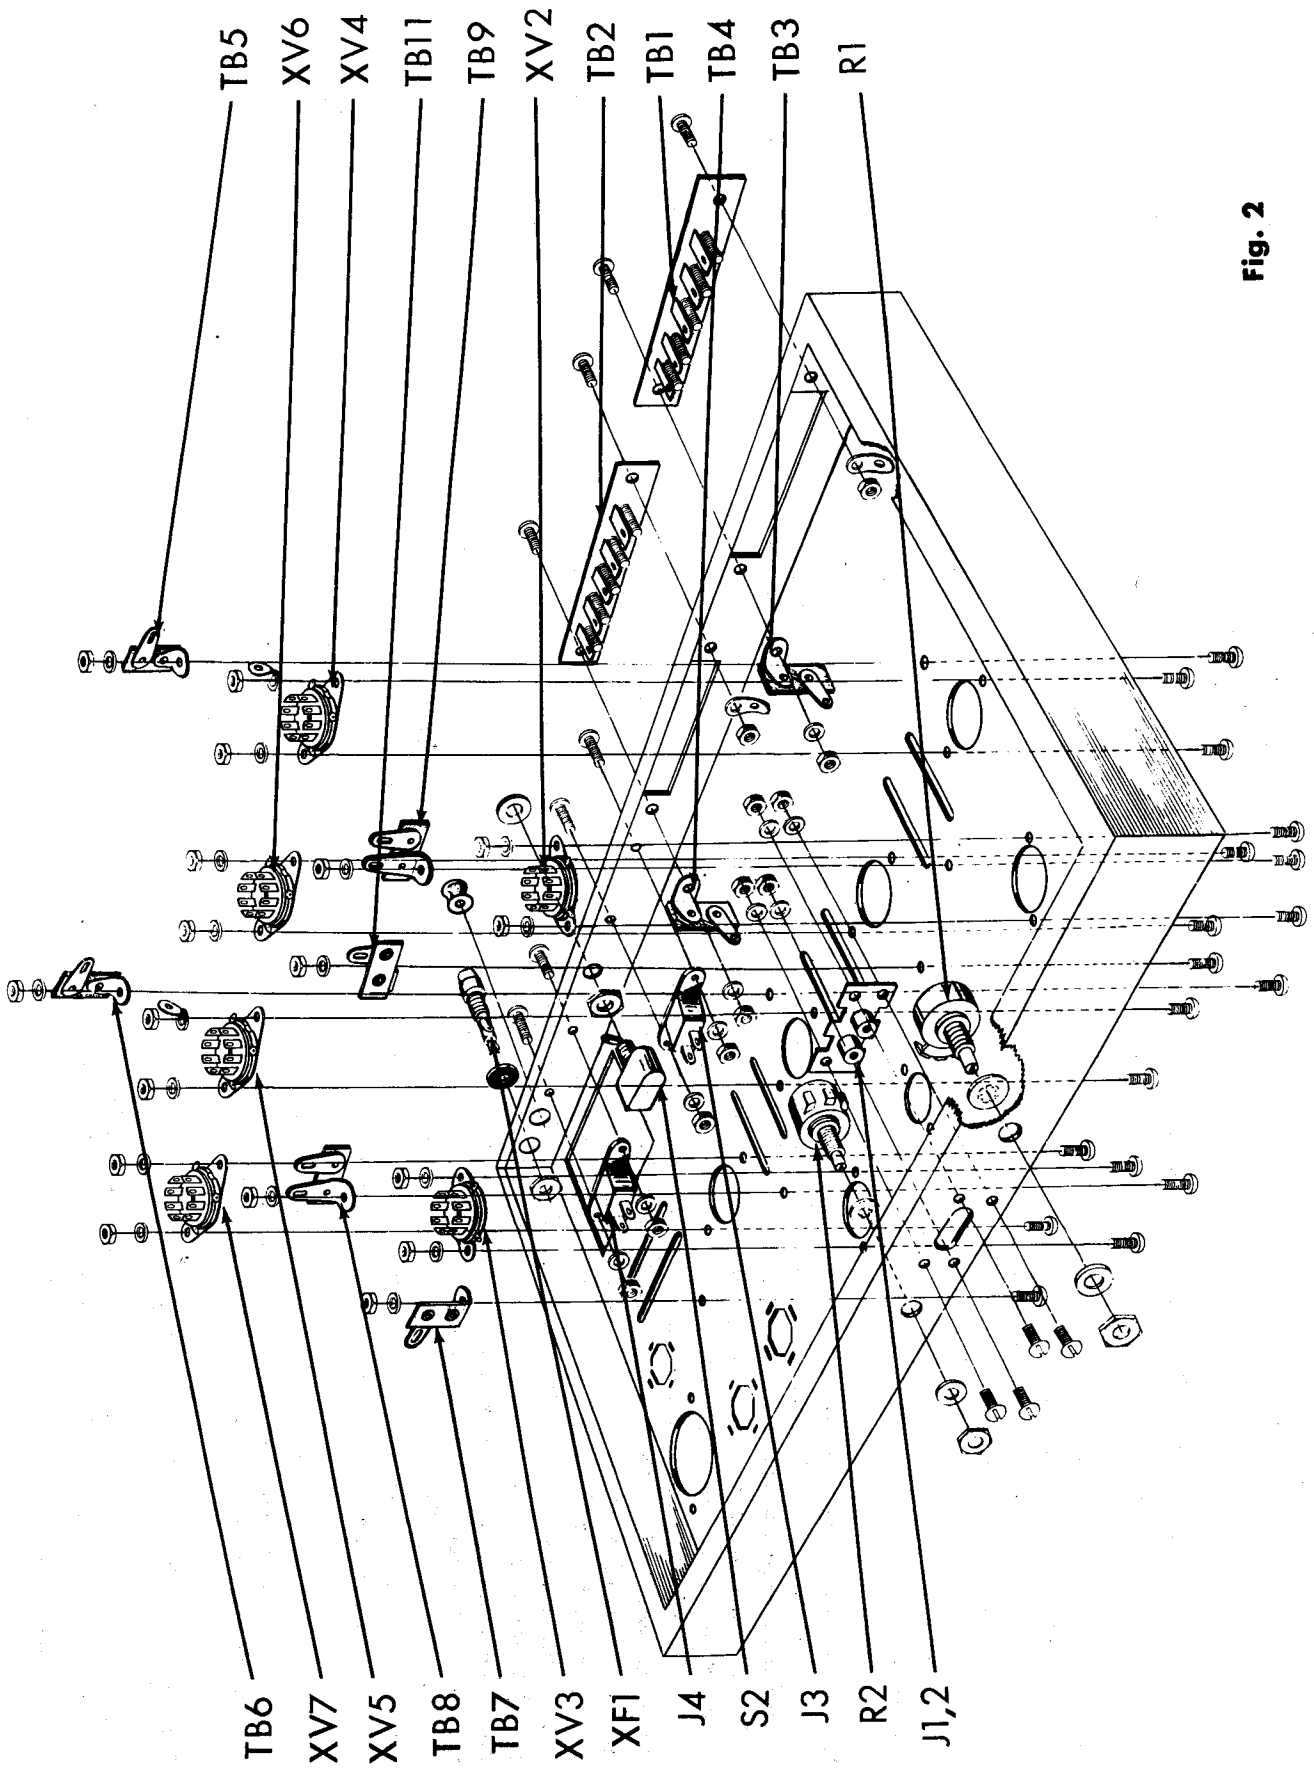

Fig. 2
- (✓) 1. Fig. 2. On the rear apron of the chassis, mount the five screw terminal boards, TB 1 and TB 2, as shown. Use two #6-32 screws and two #6-32 hex nuts on each. Under one of the hex nuts, used for mounting each terminal board, mount a #6 ground lug. Under each of the remaining hex nuts used for securing the terminal boards TB 1 and TB 2 to the chassis, mount a 1 post left terminal strip and a #6 lockwasher. Mount terminal strip TB 3 under the lockwasher and hex nut used for securing TB 1 to the chassis and terminal strip TB 4 under the hex nut and lockwasher used for securing TB 2 to the chassis.
- (✓) 2. Fig. 2. Mount the two convenience outlets, J 3 and J 4, as shown. Use two #6-32 screws, two #6 lockwashers, and two #6-32 hex nuts on each.
- (✓) 3. Fig. 2. Mount the toggle switch S 2, using a 15/32-32 round ring nut outside the chassis and a 15/32-32 hex nut inside the chassis. Adjust the hex nut so that only 1/16" of the screw threads can be seen outside the chassis. Screw the ring nut on so that the switch is secured to the chassis and will not rotate.
- (✓) 4. Fig. 2. Mount fuseholder XF1, as shown. Use a thin rubber washer outside the chassis. Use a 1/2"-32 hex nut to secure the fuseholder to the chassis. Do not tighten too much or the holder will crack.
- (✓) 5. Fig. 2. Push a rubber grommet in the remaining hole in the rear apron of the chassis next to the fuseholder.
- (✓) 6. Fig. 2. Mount the 1 post upright right terminal strip, TB 5; the 1 post upright right terminal strip, TB 6; the 1 post upright right terminal strip, TB 7; the 1 post right with ground terminal strip, TB 8; the one post right with ground terminal strip, TB 9; and the one post left terminal strip, TB 11, as shown. Note the orientation of each of these terminal strips in figure #3. Use one #6-32 screw, one #6 lockwasher and one #6-32 hex nut to secure each terminal strip to the chassis.
- (✓) 7. Fig. 2. Mount octal sockets XV 2, XV 3, XV 4, XV 5, XV 6, and XV 7 as shown. Note the orientation in figure #3. The number of each pin is indicated next to the pin on the bakelite portion of the socket. Use two #6-32 screws and two #6-32 hex nuts to secure each socket to the chassis. Under one nut of XV 4 and one nut of XV 5, mount a #6 ground lug. Under each of the remaining nuts mount a #6 lockwasher.
- (✓) 8. Fig. 2. Mount the dual input jack, J 1, 2, as shown. Use four #4-40 screws, four #4 lockwashers, and four #4-40 hex nuts.
- (✓) 9. Fig. 2. Mount potentiometers, R 1 and R 2, as shown. Use one 3/8 lockwasher inside the chassis and one 3/8 flatwasher and a 3/8 hex nut outside the chassis to secure each potentiometer to the front apron of the chassis.